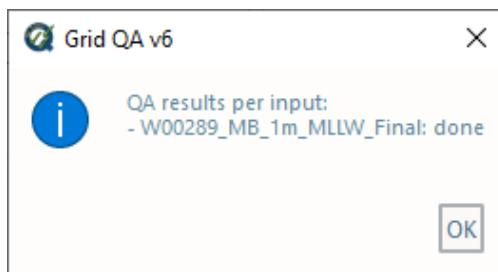

Fig. 2.27: The output message at the end of **Grid QA v5** execution.
- After computing, the output window opens automatically, and the results are shown (Fig. 2.27).